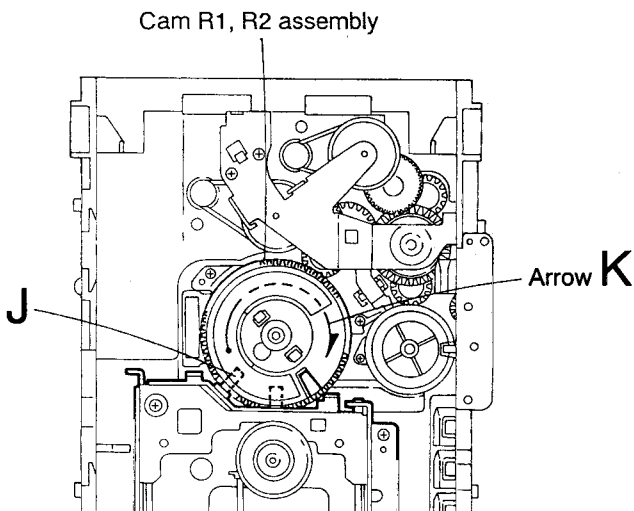

Fig.5-45
(See Figs. 5-45 and 5-46)
1. For dismantling only the CD mechanism without removing the CD mechanism assembly, align the shaft "J" of the CD mechanism assembly to the position shown in Fig. 5-45 while turning the cam R1 and R2 assembly in the arrow direction "K".